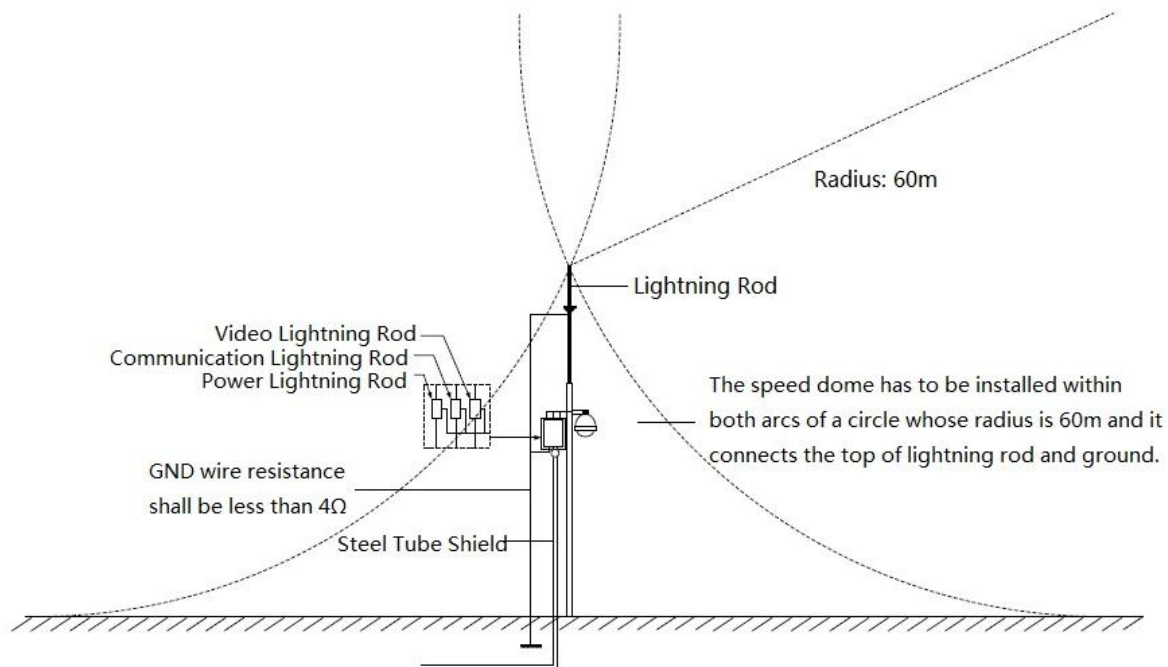

Figure 4-1
- System shall adopt equal-potential wiring. The earth device shall meet anti-jamming and at the same time conforms to your local electrical safety code. The earth device shall not short circuit to N (neutral) line of high voltage power grid or mixed with other wires. When connect the system to the earth alone, the earth resistance shall not be more than  $4\ \Omega$  and earth cable cross-sectional area shall be no less than  $25\ \text{mm}^2$ . See Figure 4-1.